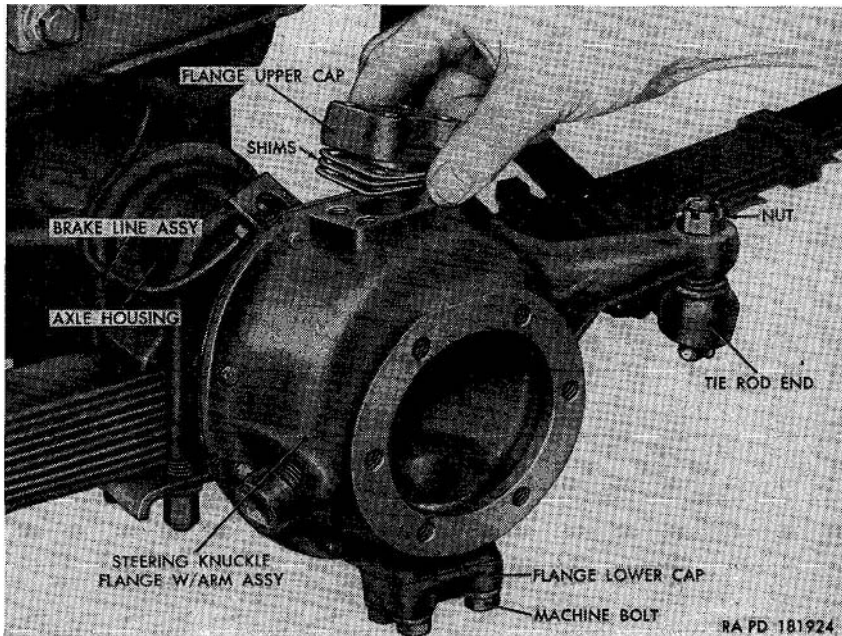
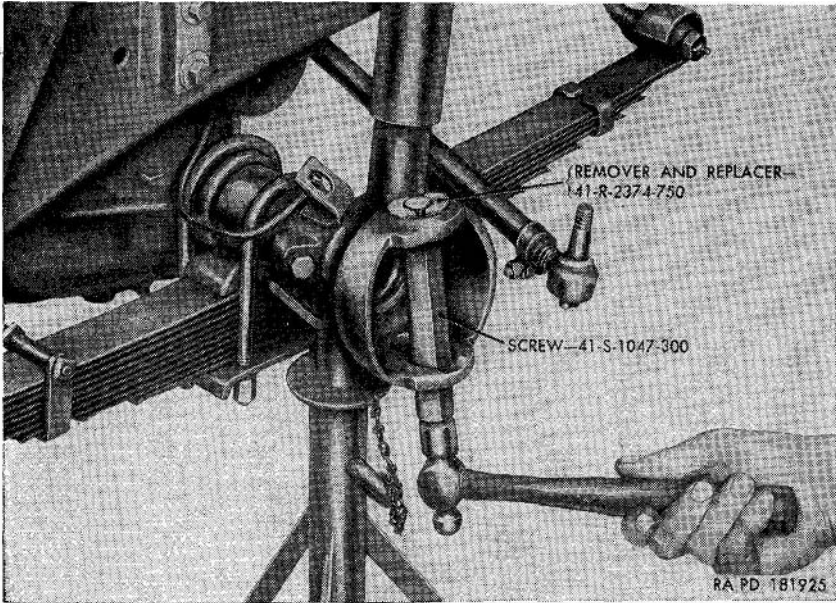

Figure 141. Removing flange upper cap and shims from right steering knuckle flange.
Figure 142. Removing steering knuckle flange bearing Cup from front axle housing, using remover and replacer 41-R-2374-750 and screw 41-2-1047-300.
- (1) Remove the axle shaft with universal joints assembly (par. 207a).
- (2) Withdraw the cotter pin and unscrew the nut securing the steering tie rod end to the steering knuckle arm (fig. 141).
- (3) Remove the front brake flexible line assembly (par. 236b (1) (a)).
- (6) Loosen the four bolts securing the flange lower cap (fig. 141) to the flange and remove the bolts and lockwashers. Pry the cap from the flange.
- (7) Remove the steering knuckle flange oil seal with retainer assembly (par. 212a).
- (8) Pull the steering knuckle flange off the axle housing and steering tie rod end.
- (9) Lift one bearing cone out of the flange and the other out of the axle housing.
- (10) Position the remover and replacer 41—R-2374-750 and screw 41—S-1047-300 (fig. 142) in the axle housing and drive one steering knuckle flange cap bearing cup out of the housing. Remove the other cup in the same manner.
- (3) Insert flange lower cap (fig. 141) into the lower section of the flange, aligning the cap holes with the flange bolt holes. Secure the cap to the flange with two  $\frac{3}{8} \times 1\frac{1}{2}$  bolts and lock-washers.
- (4) Position the flange upper cap, with shims, over the upper section of the flange. Align the cap and shim holes with the flange bolt holes. Secure the cap and shims to the flange with two  $\frac{3}{8}$  x  $1\frac{1}{2}$  bolts and lockwashers.
- (5) Hook a spring scale in the end of the steering knuckle arm and pull at right angles to the arm. The flange should move with a pull of between 6 to 9 pounds. Install or remove shims until adjustment is correct.
- (6) Install the steering knuckle flange oil seal with retainer assembly (par. 212b).
- (7) Position the front brake flexible line guard on the flange cap. Secure the guard to the cap and flange with two  $\frac{3}{8}$  x bolts and lockwashers.